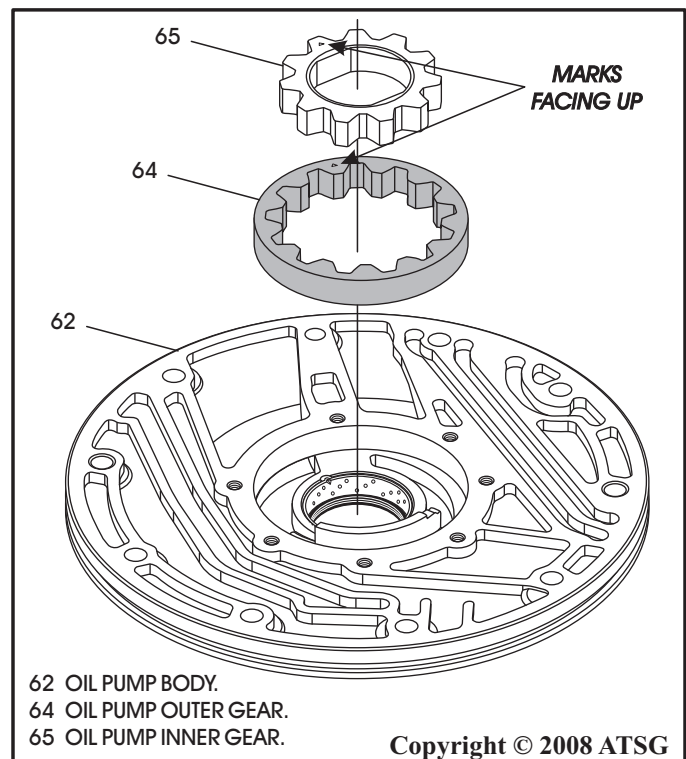

Figure 80
7. Install the outer and inner gears into the pump body, with the marks facing up, as shown in Figure 80.